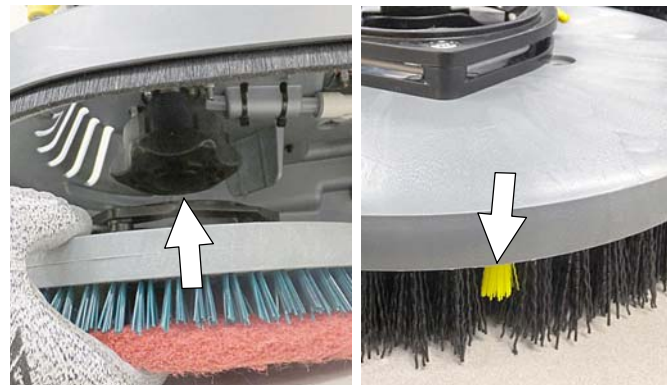

FIG. 11
- Align the pad driver or brush under the motor hub and push it upward to engage hub (Figure 11). Replace pads or brushes when they no longer clean effectively or when the bristles on the brush disk are worn to the yellow indicator (Figure 11).